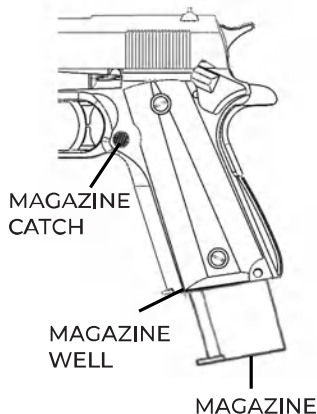

FIGURE 4 - MAGAZINE PARTIALLY INSERTED
2. Remove magazine from pistol. Place your hand under magazine to prevent it from falling. Press magazine catch (located on left side of pistol behind trigger guard) to drop the magazine out of the magazine well (See Figure 4).